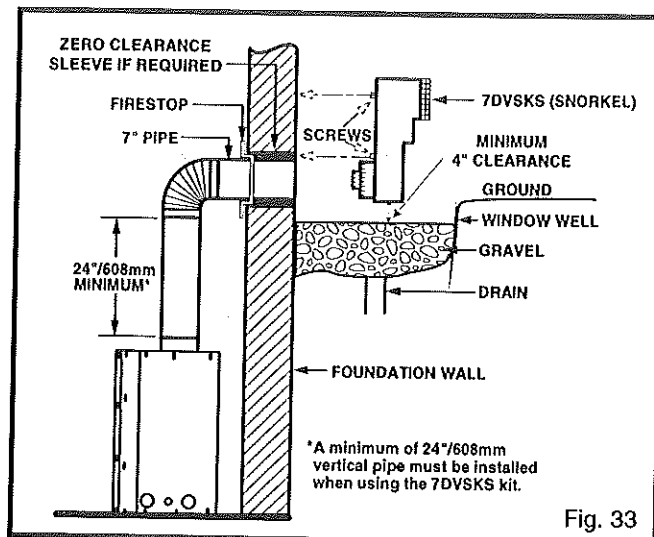

Fig. 33
2. Remove soil to a depth of approximately 16" (406 mm) below base of snorkel. Install drain pipe. Install window well (not supplied). Refill hole with 12" (305 mm) of coarse gravel leaving a clearance of approximately 4" (100 mm) below snorkel (Fig. 33).
- 7 Level the soil so as to maintain a 4" clearance (100 mm) below snorkel (Fig. 33).